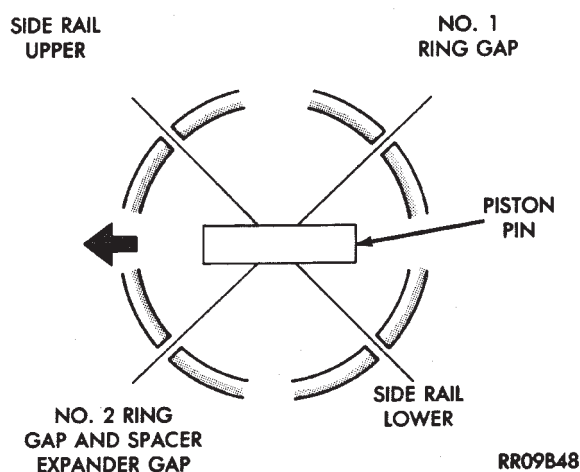

Fig. 12 Piston Ring End Gap Position
(10) Position piston ring end gaps as shown in (Fig. 12).
(11) Position oil ring expander gap at least 45° from the side rail gaps but **not** on the piston pin center or on the thrust direction. Staggering ring gap is important for oil control.